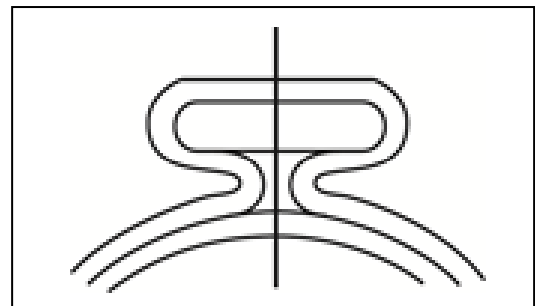

Fig. 5: Full ear closure required
3. **IMPORTANT:** For proper installation of Oetiker StepLess® PEXGrip® Pro Clamps 263, full ear closure is required. Visually inspect clamp for correct closed ear form. **(Fig. 5)**